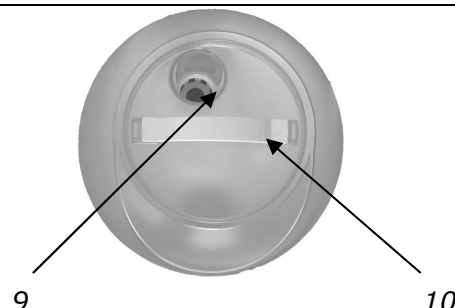

Fig. 4 (Bottom of Water Tank)
1. Turn Water Tank upside down and unscrew Water Tank Cap. **NOTE:** The opening next to the water tank cap is the mist channel. The mist channel is enclosed in plastic. The mist outlet channel is separate from the water in the water tank. See FIG. 4 #13 page 4.